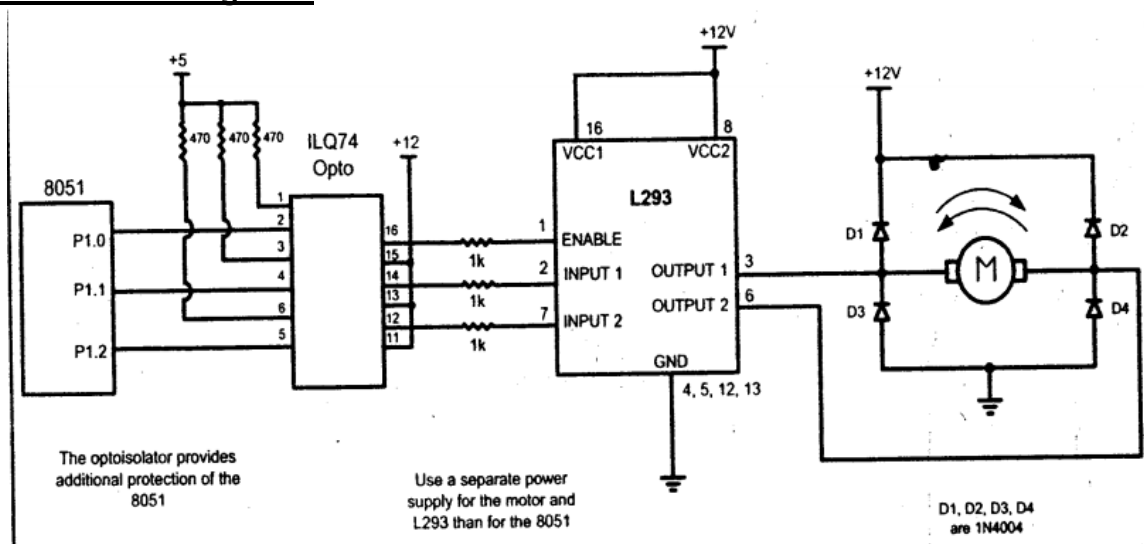

Figure 5.18 Bidirectional Motor Control Using L293 Chip
- Figure 5.18 shows the connection of L293 to an 8051.